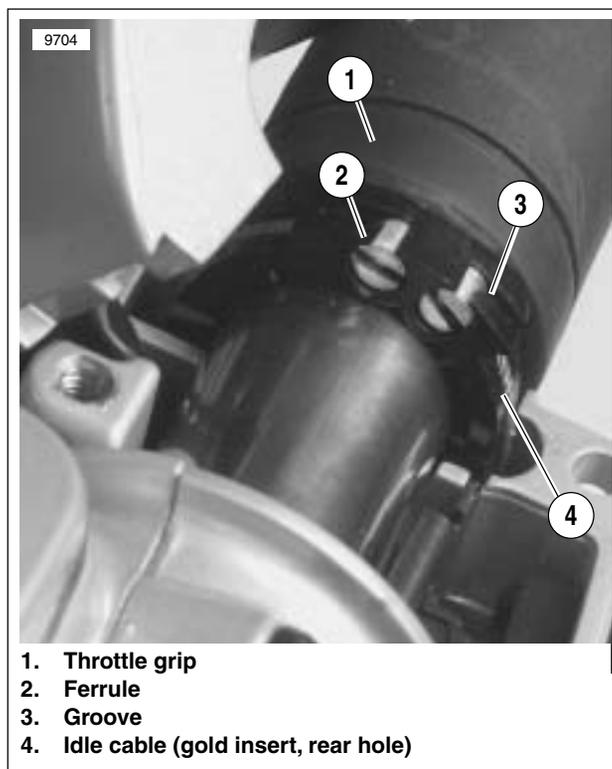

Figure 2-29. Throttle Cable Attachment
6. See Figure 2-29. Pull cables from housing by placing a drop of oil on retaining ring that holds cable in housing, then firmly pull bent tubing portion of cable out of housing using a rocking motion.
2. See Figure 2-29. Attach control cable assemblies to lower housing.
4. Fit ferrules (2) over cable balls. Slide ferrules into throttle notches and rotate so cables fit grooves (3) in throttle grip.